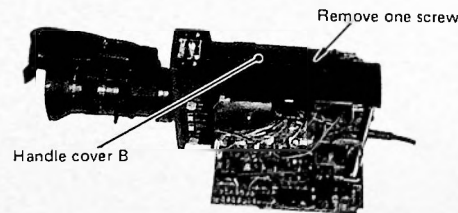

Fig. 7-7
- Remove the one screw on the handle cover B and remove the handle cover B. (Fig. 7-7)